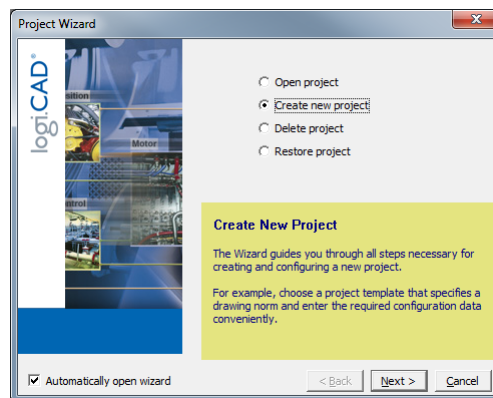

Figure 56: logiCAD project wizard
2. The project wizard starts automatically as shown in Figure 56.